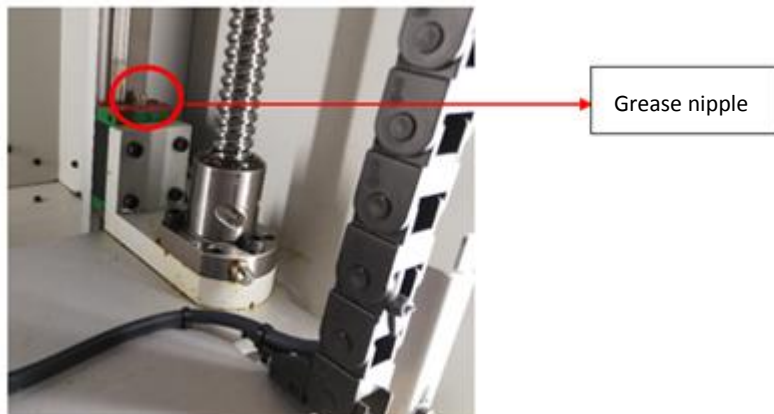

Fig. 28 Lubricating the linear guides on the left side
- Repeat the operation for the right-hand carriage of the Z axis (Fig. 28).